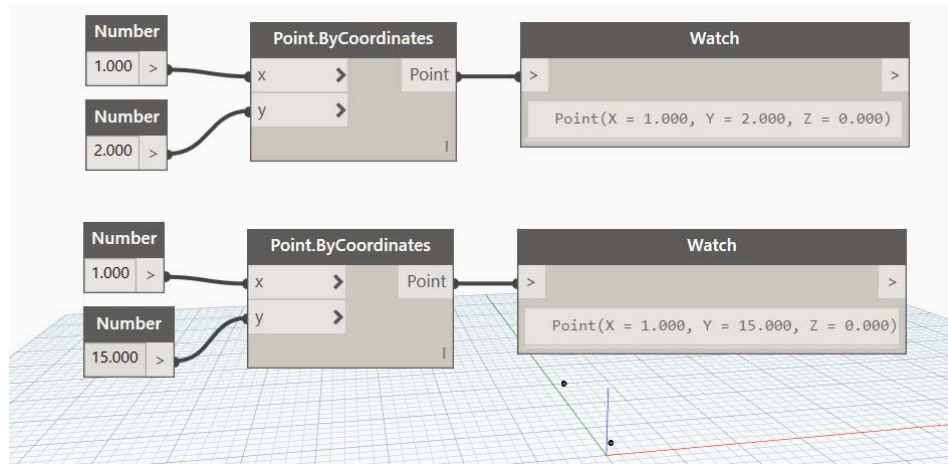

Figure 18
21. Change the number values of the copied point to move it (see Figure 18).